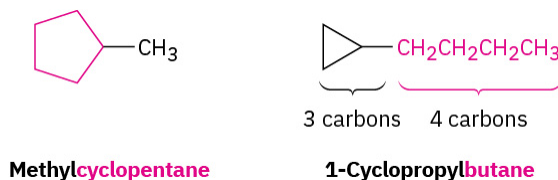

Figure 20.4f. Alkyl substituted cycloalkanes methylcyclopentane and 1-cyclopropyl butane. (credit: Organic Chemistry \(OpenStax\), CC BY-NC-SA 4.0)
1. Find the parent. Count the number of carbon atoms in the ring and the number in the largest substituent. If the number of carbon atoms in the ring is equal to or greater than the number in the substituent, the compound is named as an alkyl-substituted cycloalkane. If the number of carbon atoms in the largest substituent is greater than the number in the ring, the compound is named as a cycloalkyl-substituted alkane. Refer to Figure 20.4f. for examples of substituted cycloalkanes.